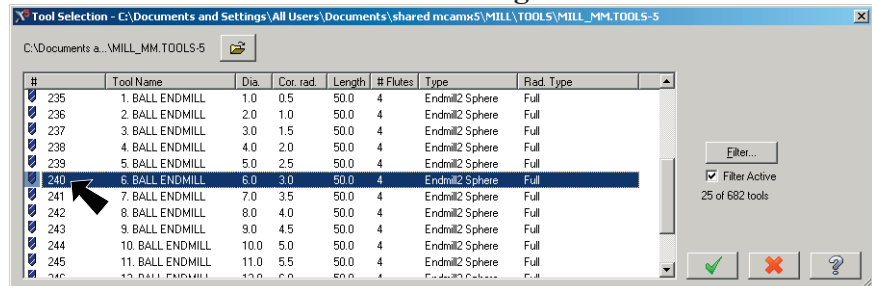

Fig. 13
Step 16. Click **240 Ball End-mill 6mm**, **Fig. 13** and click OK.